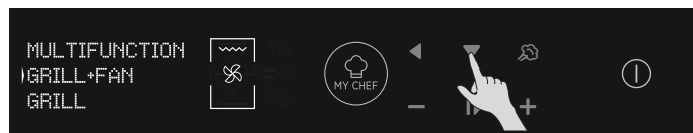

Figure 9
- Select the desired Cooking mode by pressing OK while arrow on the display at desired function. Press DOWN in order to see all available functions. (Figure 9)